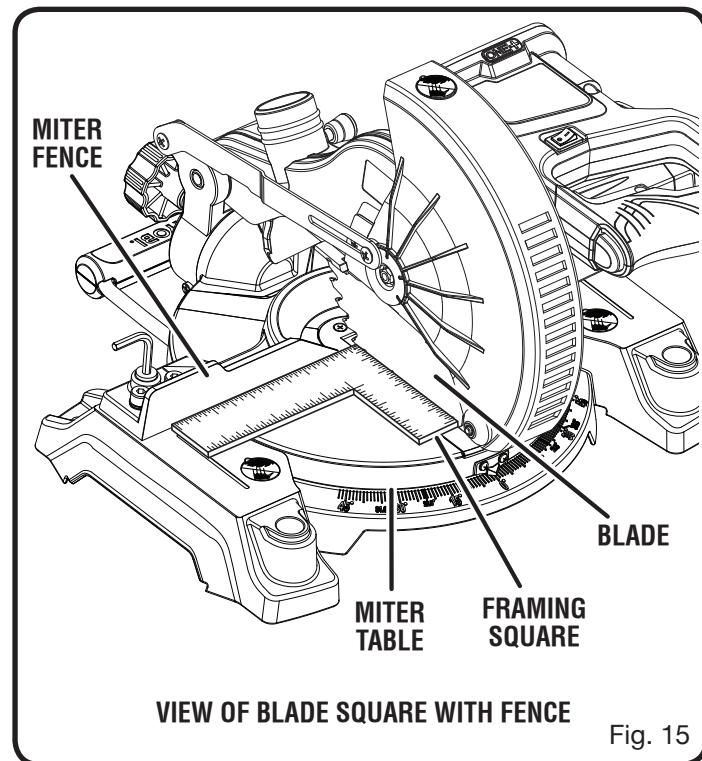

Fig. 15
See Figures 15 - 19.
- The edge of the square and the saw blade should be parallel as shown in figure 15.